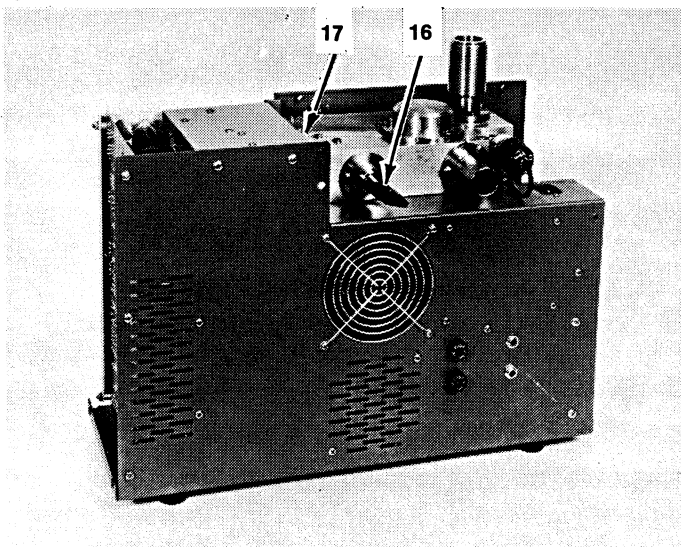

Fig. 3-2. Secondary Operating Controls and Indicators
**Table 3-2. Secondary Operating Controls and Indicators (Fig. 3-2)